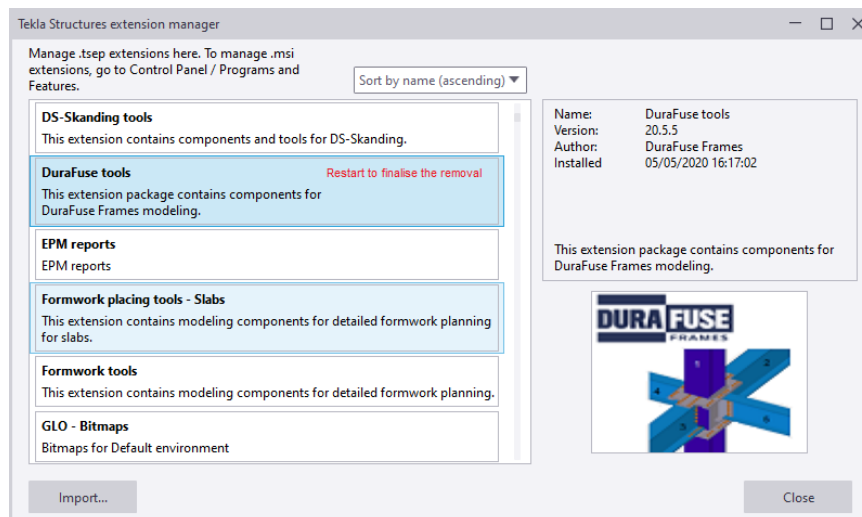

Figure 3-10. Restart Tekla Prompt
2. A prompt will appear, asking to restart Tekla Structures to finalize the uninstallation (Figure 3-10). Continue with the restart and uninstallation.